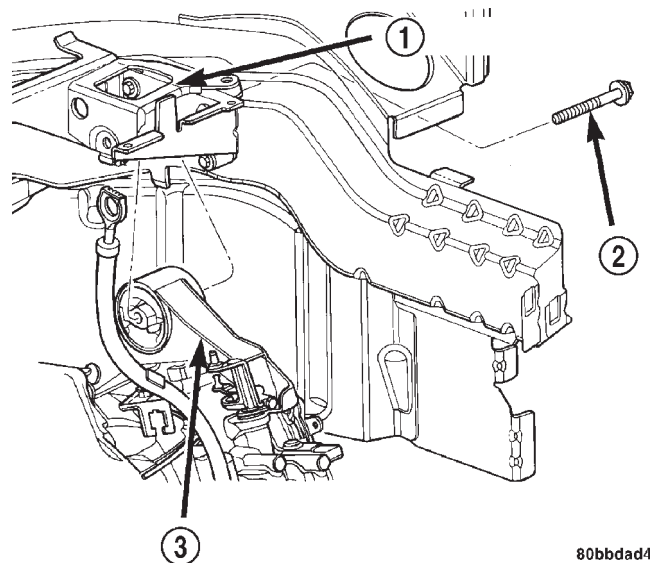
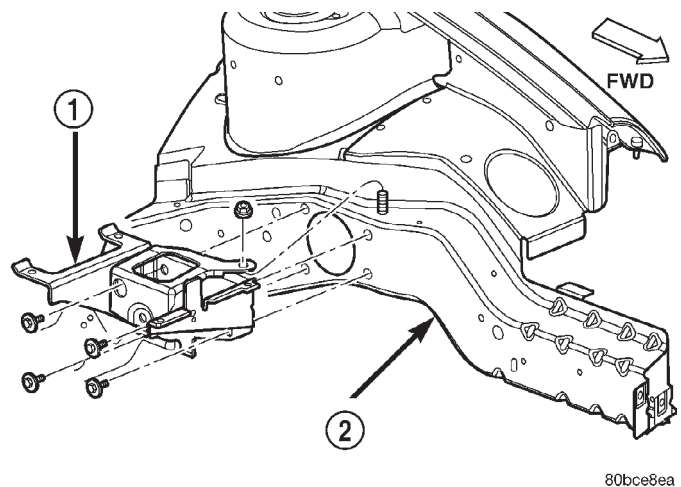

Fig. 14 Left Mount Through Bolt
Fig. 15 Left Mount Bracket
- (8) Remove mount through bolt (Fig. 14).
- (9) Disconnect transaxle shift cable from left mount and transaxle linkage.
- (10) Remove left mount bracket to body frame rail fasteners (Fig. 15).
- (2) Install engine mount bracket to body frame rail and tighten fasteners to 28 N·m (250 in. lbs.) (Fig. 15).
- (3) Position engine/transaxle for installation of through bolt. Install and tighten through bolt to 118 N·m (87 ft. lbs.) (Fig. 14).
- (4) Remove jack from under transaxle.
- (5) Install through bolt access plug at left side outer frame rail.
- (6) Install left splash shield and wheel.
- (7) Connect transaxle shift cable to engine mount and transaxle linkage.
- (8) Install battery tray and battery.